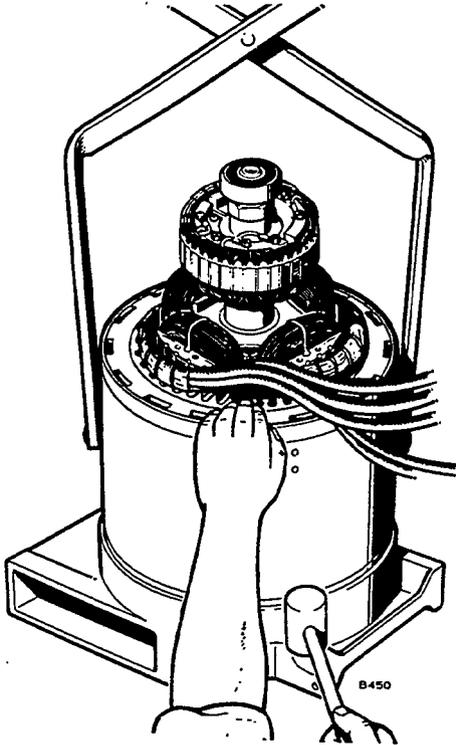

FIGURE 59. STATOR REMOVAL
- Using a safe lifting device, stator handling tongs, or chain and lift hooks, lift stator assembly from gear case adapter. If necessary, lift unit off bench about one inch and tap adapter housing with a soft faced hammer to free stator from adapter, Figure 59.